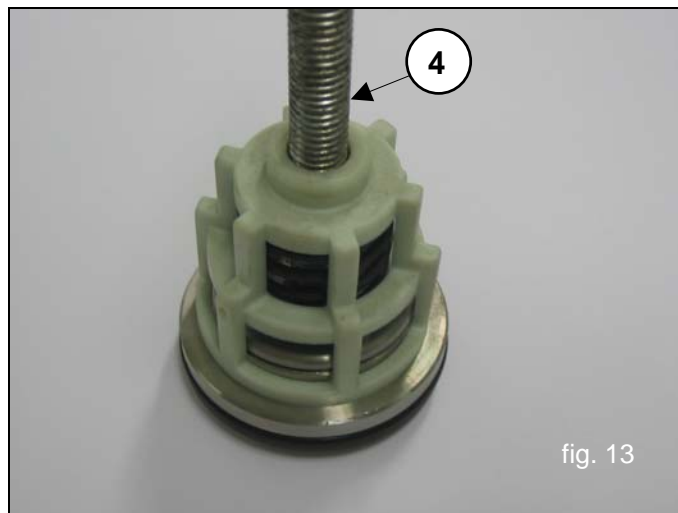

fig. 13
Disassemble the suction and delivery valve units by screwing on an M10 screw long enough to act on the valve and extract the valve guide from the valve seat (pos. ④ fig. 13).